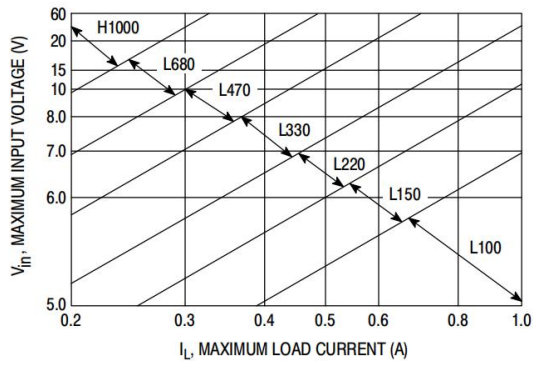

Figure 17. XLM2575-3.3
4. Inductor Selection (L1) A. According to the required working conditions, select the correct inductor value using the selection guide from Figures 17 to 21. B. From the appropriate inductor selection guide, identify the inductance region intersected by the Maximum Input Voltage line and the Maximum Load Current line. Each region is identified by an inductance value and an inductor code. C. Select an appropriate inductor from the several different manufacturers part numbers listed in Table 1 or Table 2. When using Table 2 for selecting the right inductor the designer must realize that the inductor current rating must be higher than the maximum peak current flowing through the inductor. This maximum peak current can be calculated as follows: $I_{p(max)} = I_{Load(max)} + \frac{(V_{in} - V_{out}) t_{on}}{2L}$ where t_{on} is the "on" time of the power switch and $t_{on} = \frac{V_{out}}{V_{in}} \times \frac{1}{f_{osc}}$ For additional information about the inductor, see the inductor section in the "External Components" section of this data sheet.	4. Inductor Selection (L1) A. Use the inductor selection guide shown in Figures 17 to 21. B. From the selection guide, the inductance area intersected by the 20 V line and 0.8 A line is L330. C. Inductor value required is 330 μH. From the Table 1 or Table 2, choose an inductor from any of the listed manufacturers.
To simplify the inductor selection process, an inductor selection guide for the XLM2575 regulator was added to this data sheet (Figures 17 through 20). This guide assumes that the regulator is operating in the continuous mode, and selects an inductor that will allow a peak-to-peak inductor ripple current to be a certain percentage of the maximum design load current. This percentage is allowed to change as different design load currents are selected. For light loads (less than approximately 200 mA) it may be desirable to operate the regulator in the discontinuous mode, because the inductor value and size can be kept relatively low. Consequently, the percentage of inductor peak-to-peak current increases. This discontinuous mode of operation is perfectly acceptable for this type of switching converter. Any buck regulator will be forced to enter discontinuous mode if the load current is light enough.